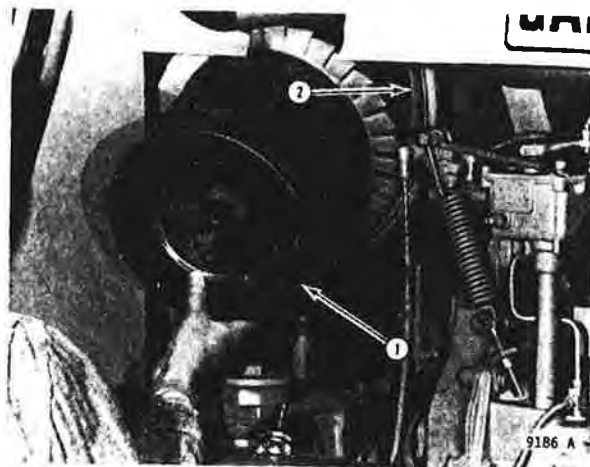

Figure 115
Remove bolt and gasket (not shown) that secure filter element (1, Figure 115) in air cleaner housing (2).